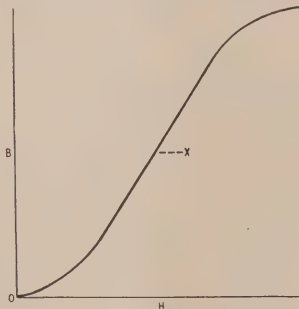

Fig. 6—Plot of a simple B-H curve.
In tape recording, an alternating current (other than the signal current) is fed through the recording coil. This additional current is known as magnetic bias and serves a purpose similar to the bias applied to an amplifier tube. Fig. 6 shows a curve in which magnetic flux (B) is plotted as a function of magnetizing force (H). If signal current only were fed through the recording head, the operating point would be at O . Since the lower portion of